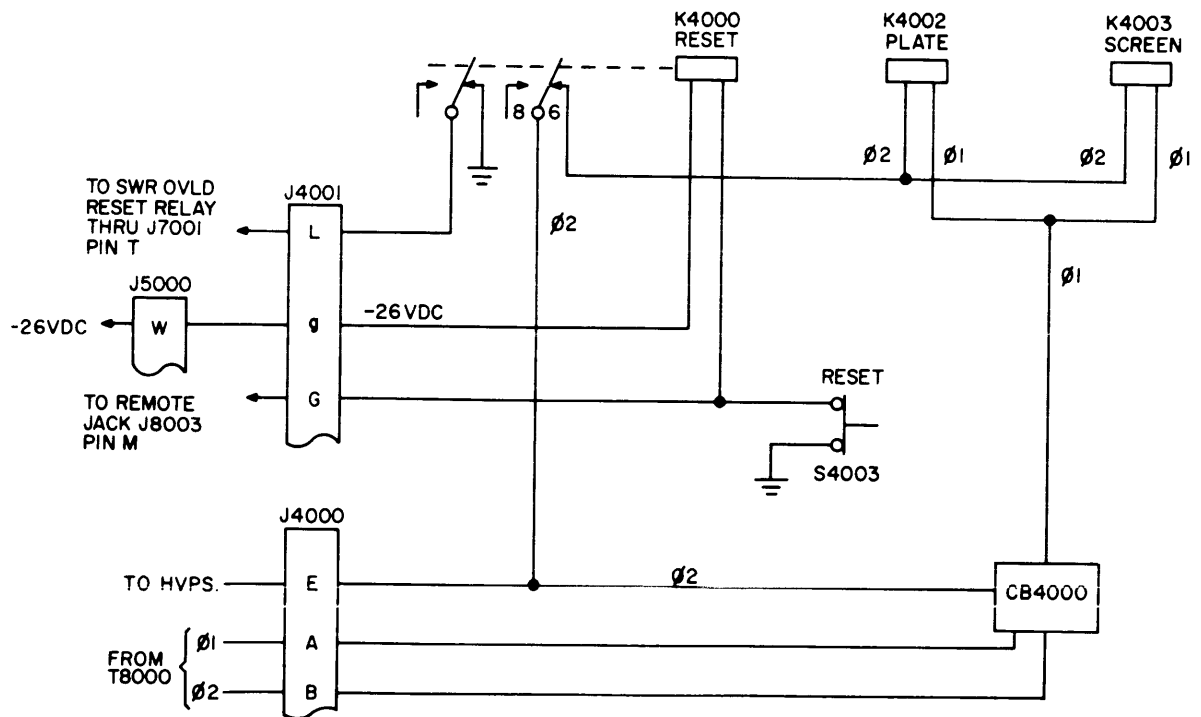

Figure 4-5. PA Plate Screen and SWR Overload Reset Circuit
d. RESET CIRCUIT OF PA SCREEN AND PLATE OVERLOAD RELAYS (refer to figure 4-5) - The PA screen and plate overload relays are latching type relays, and must be reset after they have gone into the overload condition.